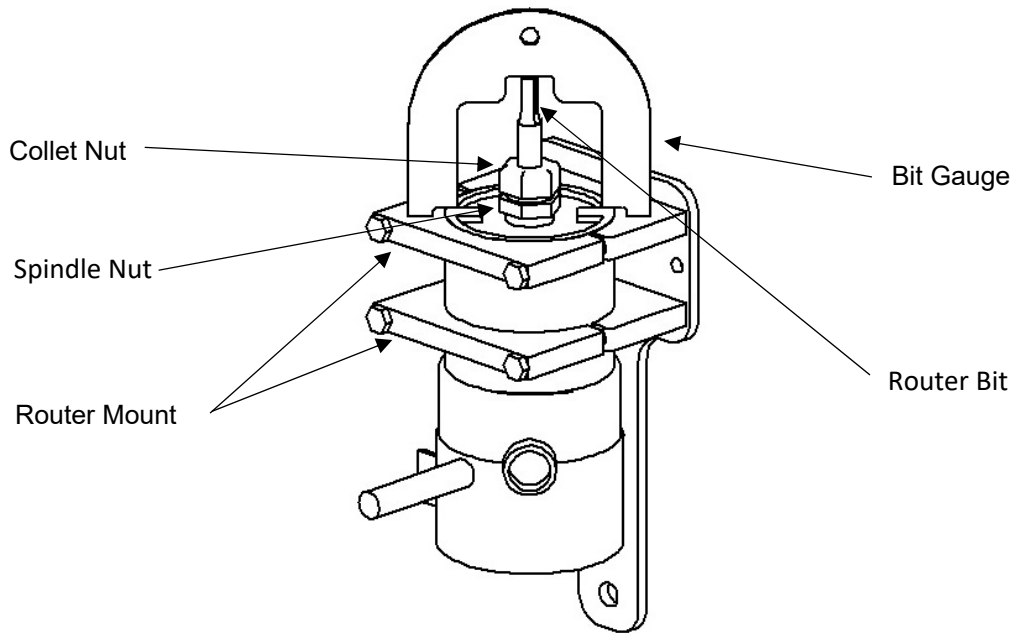
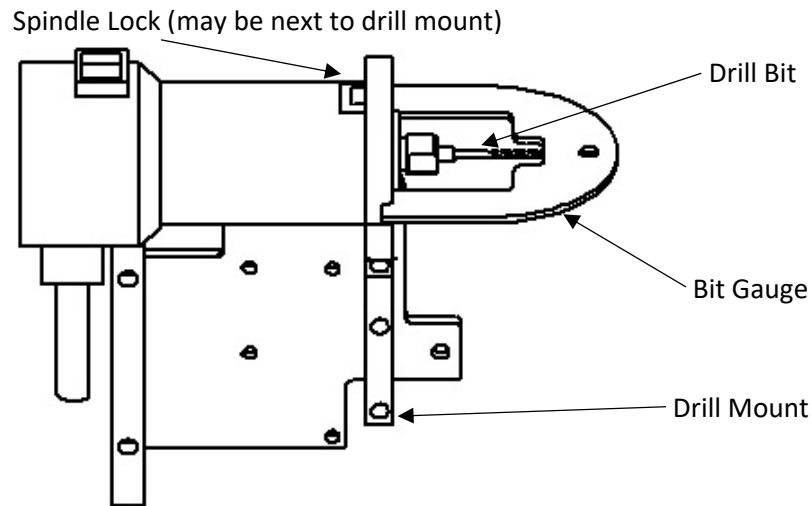

Figure 12: Installing a Router Bit
Figure 13: Installing a Drill Bit
3. Using the wrenches provided, loosen the collet nut (by turning counter clockwise when looking “down”) (Figure 12), while holding spindle nut. Remove the router bit.
5. Position the Bit Gauge (Figure 12) against the router mount (Figure 12) and pull the router bit up against the bottom of the Bit Gauge.
Always use the supplied Bit Gauge (Figure 12 & Figure 13) when installing bits.
Always use supplied Bit Gauge (Figure 12 & Figure 13) when installing bits. Failure to do so could result in the bits colliding with the machine table or the drill when the machine is cycled. If your Bit Gauge is missing or damaged contact Safety Speed for a replacement (763-755-1600).
2. Using the wrench provided, loosen the collet (by turning nut counterclockwise) (Figure 13) while holding the (red) spindle lock and remove drill bit.
5. Position the Bit Gauge (Figure 13) against the Drill Mount (Figure 13) and pull the drill bit up against the bottom of the Bit Gauge.
Always use supplied Bit Gauge (Figure 12 & Figure 13) when installing bits. Failure to do so could result in the bit colliding with the machine table or the router when the machine is cycled. If your Bit Gauge is missing or damaged contact Safety Speed for a replacement (763-755-1600).